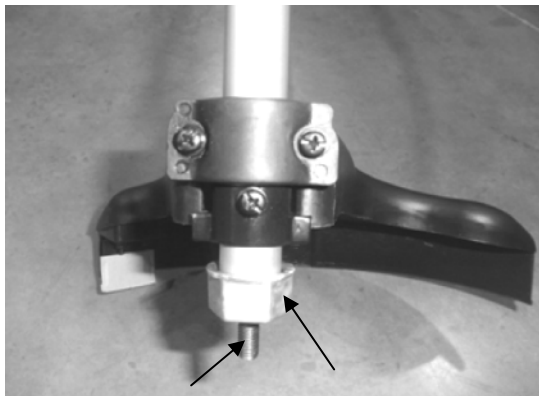
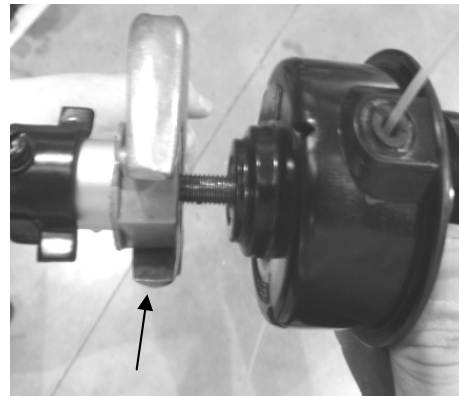

Fig 5 DRIVE SHAFT, DUST COVER
Fig 6 WRENCH
- Hold the dust cover Fig 5 with a wrench Fig 6 to stop the shaft rotating and screw the trimmer head clockwise onto the drive shaft until tight.